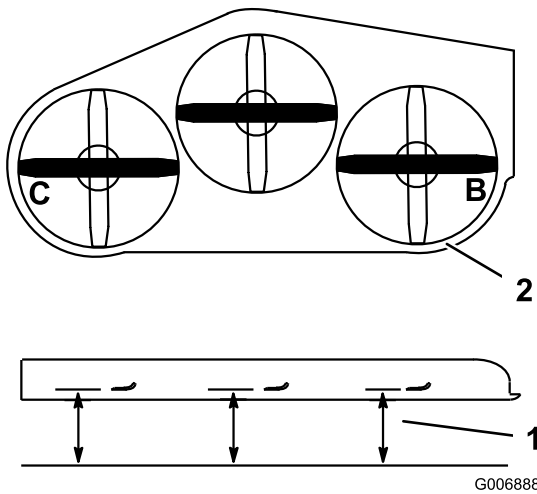

Figure 83
1. Position the **right** blade side-to-side (Figure 83).
4. Position the left blade side-to-side (Figure 83).
5. Measure the left blade at the **C** location (Figure 83), from a level surface to the cutting edge of the blade tip.